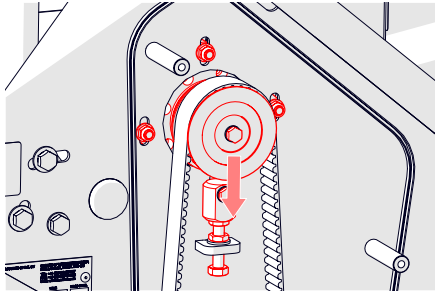

Fig. 25E - Support the weight and lower.
7. While supporting the weight of the motor and belt, loosen fully the tensioner block lock nut [17 mm spanner] below the tensioner block and lower (Fig. 25D & Fig. 25E).